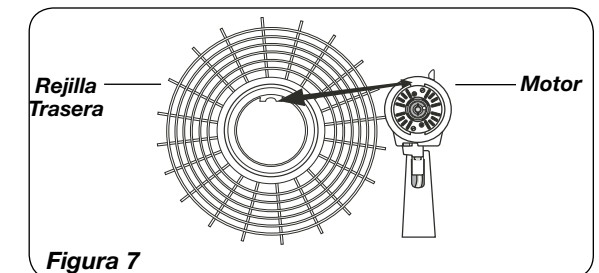

Figure 7
- Tilt **Head Assembly** back. Put **Rear Grill** on **Motor**. (*Figure 7*)